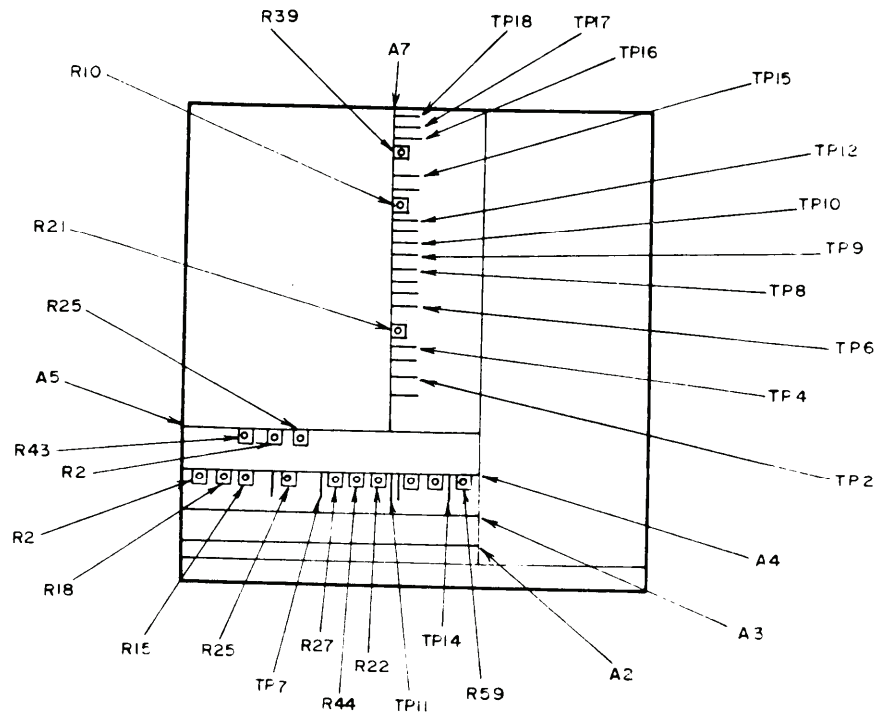

Figure 1. Test instrument mainframe - adjustment locations.
- (1) Connect multimeter to A4TP7 (-) and A4TP11 (+) (fig. 1).
(2) Press **CW** key and enter data **0 MHz** on keyboard. Multimeter will indicate between -0.004 and +0.004 V dc.
(3) Enter data **5 GHz** on keyboard. Multimeter will indicate between 4.996 and 5.004 V dc.
(4) Enter data **10 GHz** on keyboard. Multimeter will indicate between 9.996 and 10.004 V dc.
(1) Connect multimeter to A4TP7 (-) and A4TP14 (+) (fig. 1). Adjust A4R59 (fig. 1) for multimeter indication of 10.0000 V dc (R).
(2) Disconnect multimeter from TI and connect frequency counter to **POS Z BLANK** (rear panel).
(3) Press function keys and enter corresponding data on keyboard as listed in (a) and (b) below:
(4) Adjust A5R2 (fig. 1) for frequency counter indication of 10.000 ms (R).
(5) Press function keys and enter corresponding data on keyboard as listed in (a) and (b) below:
(6) Adjust A5R25 (fig. 1) for frequency counter indication of 1000 ms (R).
(7) Disconnect frequency counter from TI and connect multimeter to A4TP7 (-) and A4TP11 (+) (fig. 1).
(8) Press function keys and enter corresponding data on keyboard as listed in (a) through (f) below:
(9) The **FREQUENCY/TIME**, display will indicate **FE**. Adjust A5R43 (fig. 1) for multimeter indication of 110 V dc (R).
(10) Press function key and enter corresponding data on keyboard as listed in (a) through (e) below:
(11) The **FREQUENCY/TIME** display will indicate 01. Adjust A4R44 (fig. 1) for multimeter indication of -0.20508 V dc (R).
(12) Enter data **BKSP** on keyboard. The **FREQUENCY/TIME** display will indicate **FF**. Adjust A4R22 (fig. 1) for multimeter indication of -0.19492 V dc (R).
(13) Enter data **80** on keyboard. The **FREQUENCY/TIME** display will indicate 80 and the multimeter will indicate -0.2000 V dc.
(14) Press function keys and enter corresponding data on keyboard as listed in (a) and (b) below:
(15) Adjust A4R27 (fig. 1) for multimeter indication of 10.2000 V dc (R).
(16) Press function keys and enter corresponding data on keyboard as listed in (a) through (c) below:
(17) Adjust A4R25 (fig. 1) for multimeter indication of 10.2000 V dc (R).
(18) Enter data -200 MHz on keyboard. Adjust A4R2 (fig. 1) for multimeter indication of -0.2000 V dc (R).
(19) Press **ΔF** key and enter data **0 GHz** on keyboard. If multimeter does not indicate 5.00000 V dc, press **VERNIER** key and adjust **FREQUENCY VERNIER** control for 5.00000 V dc multimeter indication.
(20) Press **ΔF** key and enter data **1.299 GHz**. Adjust A4R15 (fig. 1) for multimeter indication of 4.35064 V dc (R).
(21) Press **ΔF** key and enter data **162.4 MHz** on keyboard. Adjust A4R18 (fig. 1) for multimeter indication of 4.91883 V dc (R).
(1) Connect multimeter to A7TP16 (-) and A7TP15 (+) (fig. 1). If multimeter does not indicate between 19.990 and 20.010 V dc, perform **b** (1) below.
(2) Disconnect multimeter from A7TP16 and A7TP15. Connect to A7TP17 (-) and A7TP18 (+) (fig. 1). If multimeter does not indicate between -39.980 and -40.020 V dc, perform **b** (2) below.
(3) Disconnect multimeter from A7TP17 and A7TP18. Connect to A7TP8 (-) and A7TP9 (+) (fig. 1). If multimeter does not indicate between -9.995 and -10.005 V dc, perform **b** (3) below.
- (1) Adjust A7R10 (fig. 1) for multimeter indication of 20.000 V dc (R).
- (2) Adjust A7R39 (fig. 1) for multimeter indication of -40.000 V dc (R).